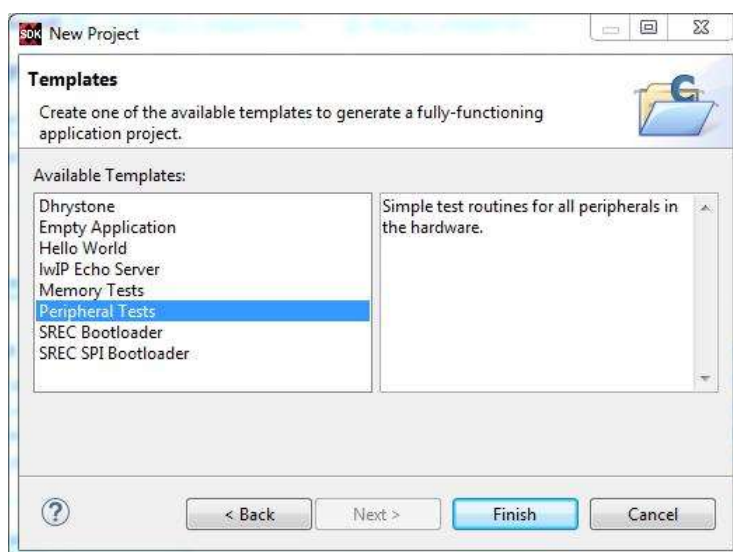

Figure 38: New Project: Template Wizard
6. Select the **Peripheral Tests** application template as in Figure 38, and click **Finish**. Note that there are other templates you could choose, providing support for various kinds of applications. It is very common to start with one such application (e.g. "Hello World") and develop it into the application you actually want to implement.